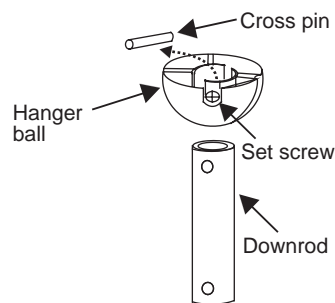

Figure 9
1. Remove the hanger ball from the 6" downrod by loosening the set screw at the top of the downrod which holds the hanger ball to the downrod. (fig. 9)
2. Slide the hanger ball down the downrod and remove the support pin. (fig. 9)